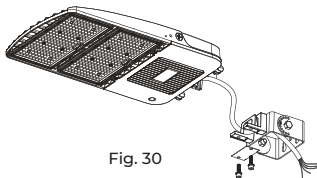

Fig. 30
1. Pass the fixture input wire through the bracket as shown in Fig.30.